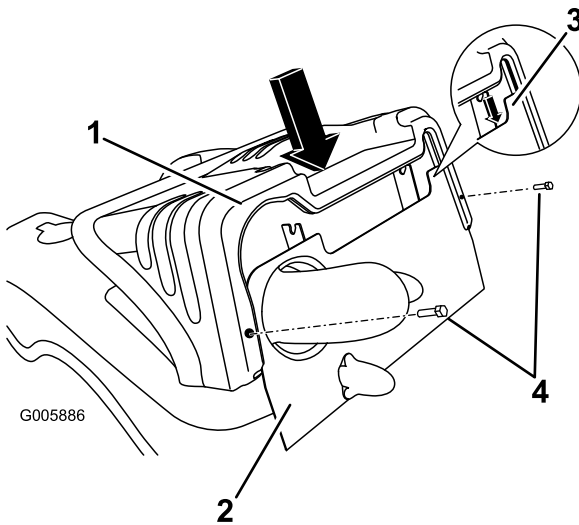

Figure 28
1. To install the hood, align the slot in the hood with the frame and carefully lower it onto the frame (Figure 28). Make sure the frame seated correctly in the engine hood groove before forcing the hood down. Push down gently to seat the retaining pin. Replace the fasteners removed previously.